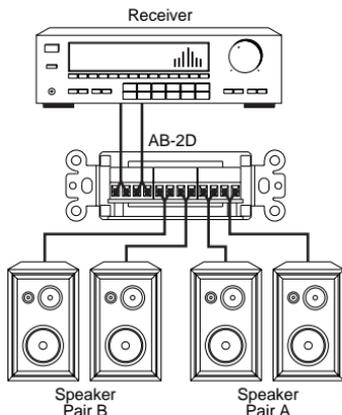

Figure 3
3. Make the connections to the AB-2D. Strip 1/4" of insulation from the end of each wire. Tightly twist the end of each wire until there are no frayed ends. Insert each wire into the appropriate hole on the connector blocks; secure the wiring to the connectors by tightening the small connector screws. Be certain that proper phasing is observed—connect the positive terminals on the AB-2D to the positive terminals on the amplifier and speakers and the negative terminals on the AB-2D to the negative terminals on the amplifier and speakers. See (Figure 3).